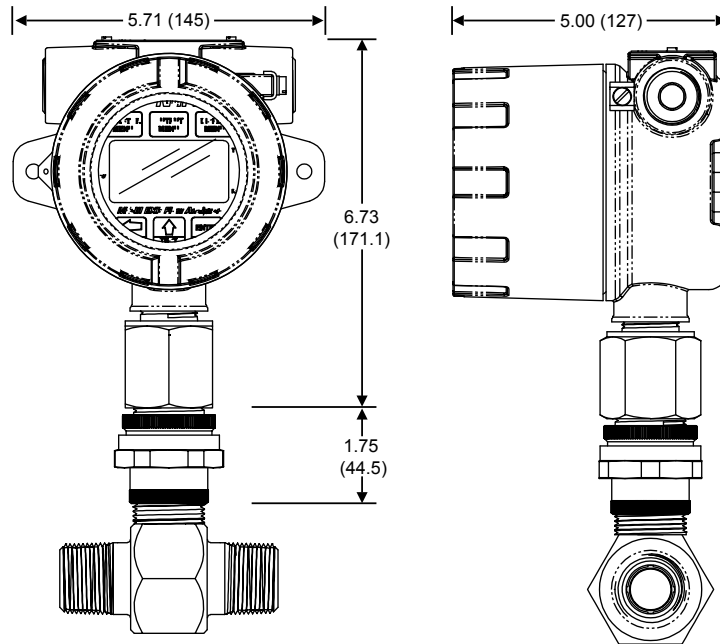
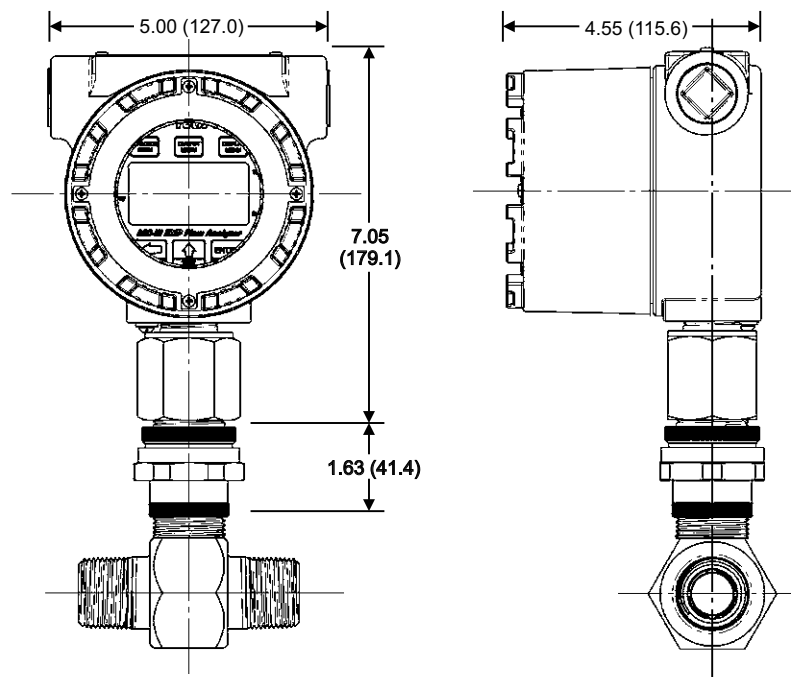
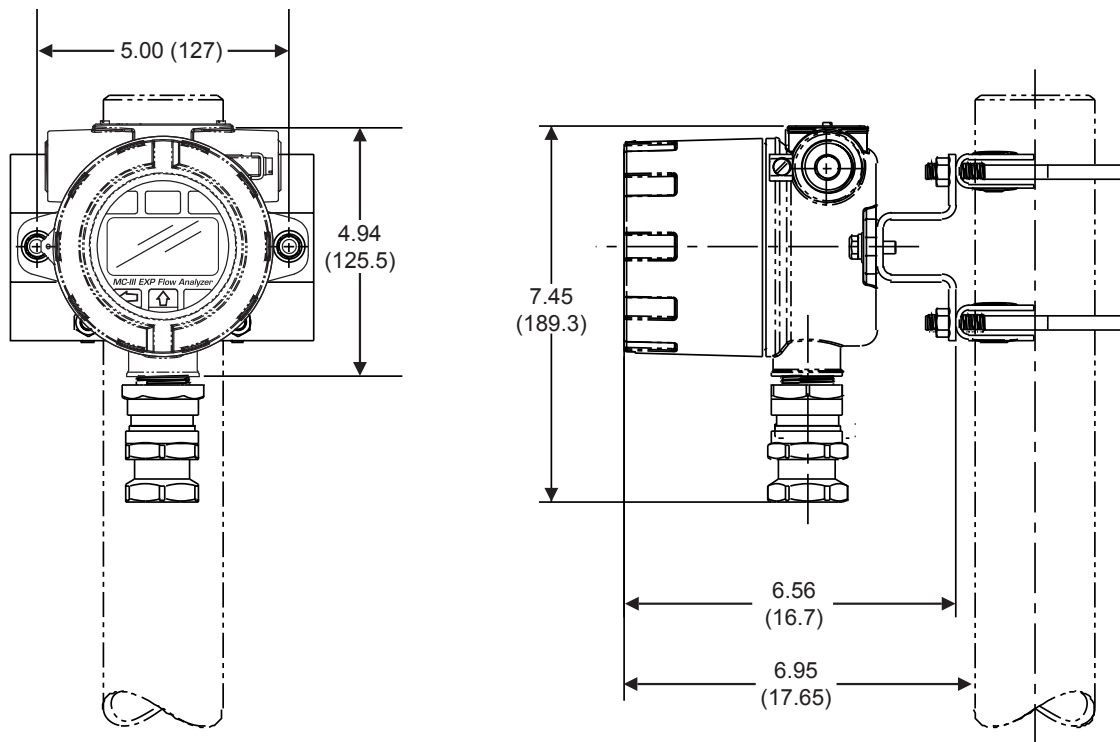

Figure 2.5—Direct mount (standard MC-III EXP enclosure) to NuFlo turbine meter with pipe reducer and union (CSA)
Figure 2.6—Direct mount (alternate MC-III EXP enclosure) to NuFlo turbine meter with pipe reducer and union (CSA)
Figure 2.7—Remote mount on a 2-in. pole using a NuFlo hardware kit (Part No. 9A-30028004)
The CSA-approved MC-III EXP is available in either of two enclosure styles. The standard enclosure shown on the cover of this manual and in *Figure 2.5, page 24*, features integral mounting holes on either side of the enclosure, allowing it to be mounted to a flat bulkhead.
The alternate enclosure (*Figure 2.6, page 24*) does not have the bulkhead mounting holes on the sides. Another distinguishing feature is the bright red ring that frames the display window. The alternate enclosure is slightly taller than the standard enclosure.
The MC-III EXP may be mounted directly to a flowmeter, or mounted remotely on a pole and connected to a flowmeter with explosionproof signal cable. The type of meter mount required varies with the meter in use. See *Figure 2.5* through *Figure 2.7* for installation dimensions.
- Mount the device to a NuFlo turbine meter or a Barton 7000 Series turbine meter. A CSA-approved pipe reducer and union connector is required (*Figure 2.5, page 24*). *Figure 2.6, page 24*, shows the same installation with the alternate MC-III enclosure.
- Remote-mount the device to a 2-in. pole using a NuFlo hardware kit (*Figure 2.7, page 25*). Pole mounting may be preferred where limited space or pipe vibration prohibits direct-mount installation. For best results, install the device as near as possible to the meter to minimize the length of explosionproof signal cable that must be used for communications. Stranded, shielded cable is recommended.